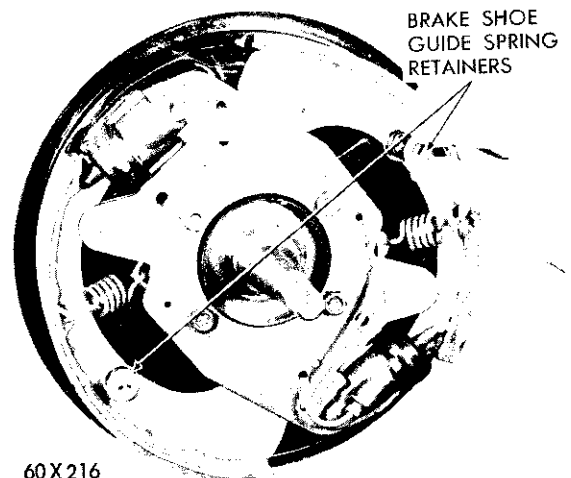

Fig. 8—Removing or Installing Brake Shoe Guide Spring Rod and Retainer
- (4) Turn the brake shoe guide retainer $\frac{1}{4}$ turn, then the retainer guide spring and rod, as shown in Figure 8.
(4) Turn the brake shoe guide retainer $\frac{1}{4}$ turn, then remove the retainer and guide rod (refer to Fig. 8).
(4) Check the tension of the brake shoe return springs. The spring tension can be checked by hooking a scale at the toe of the shoe and pulling in the direction of piston movement. The scale should read 45 to 55 foot pounds at the instant the toe of the brake shoe moves. A dial indicator may be used to indicate shoe movement.
(5) Install guide rod and retainers (Fig. 8). Be sure the positioning lip of the guide rod is positioned properly in the spring retainer.
(6) Install the drum wheel and tire assembly after backing off the adjusting cams. Adjust the front wheel bearings as described in the Front Suspension, Group 2.
(7) Adjust the brakes.
(4) Install the guide rod and retainers (Fig. 8). Be sure the positioning lip of the guide rod slides into the slot of the spring retainer.